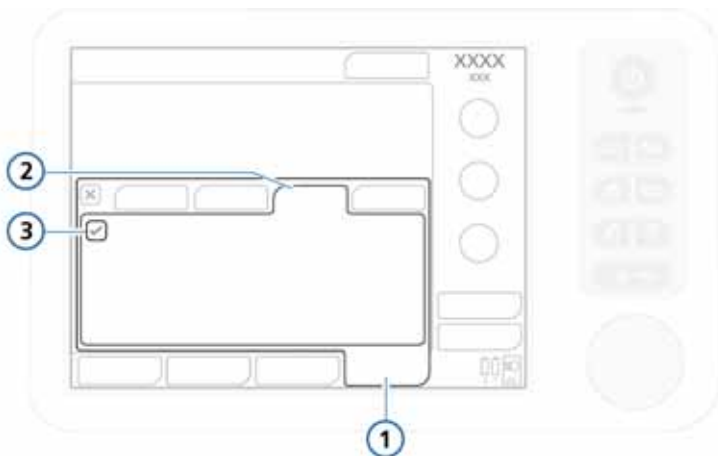

Figure 4-3. Sensor on/off window
2. Select the **O2** checkbox to enable/disable monitoring. See Figure 4-3.